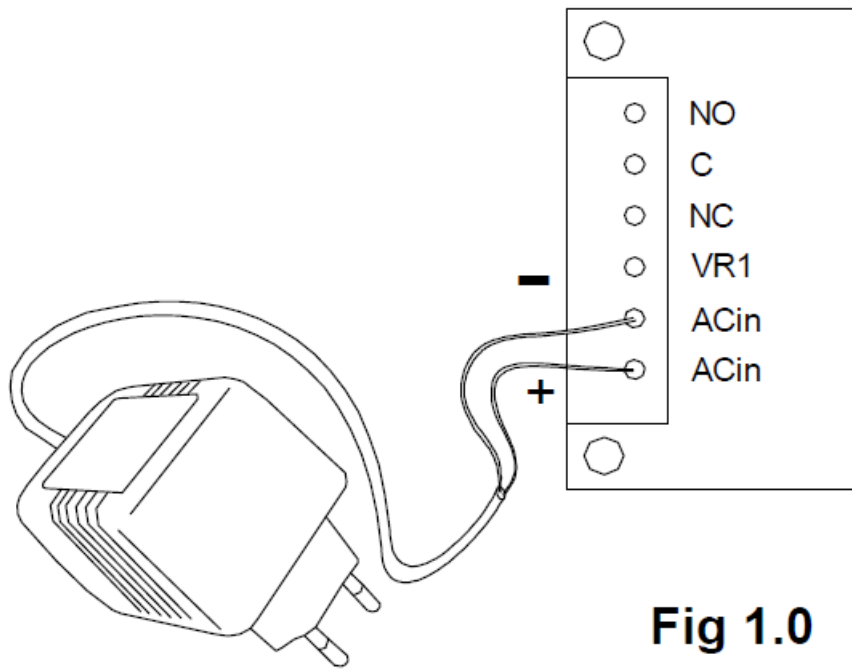

Fig 1.0
- When applying a DC voltage (16 to 18V/100 mA) : The positive input should go to the pin nearest "AC IN", the negative input to the second pin (Fig 1.0).